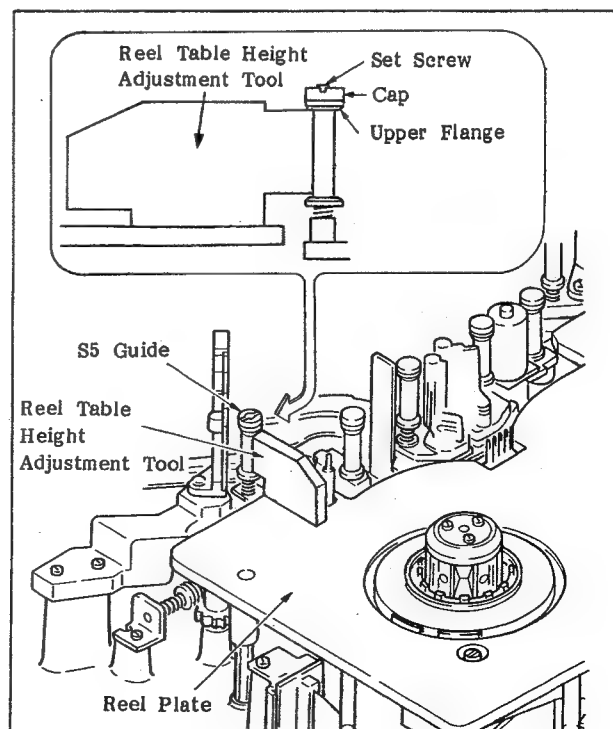

Fig. 6-48 Adjustment of the Height of the S5 Guide Roller
6. Adjust the height of the S5 guide roller by rotating the cap so that the upper flange of the S5 guide roller matches the reel table height adjustment tool as shown in Figure 6-48.